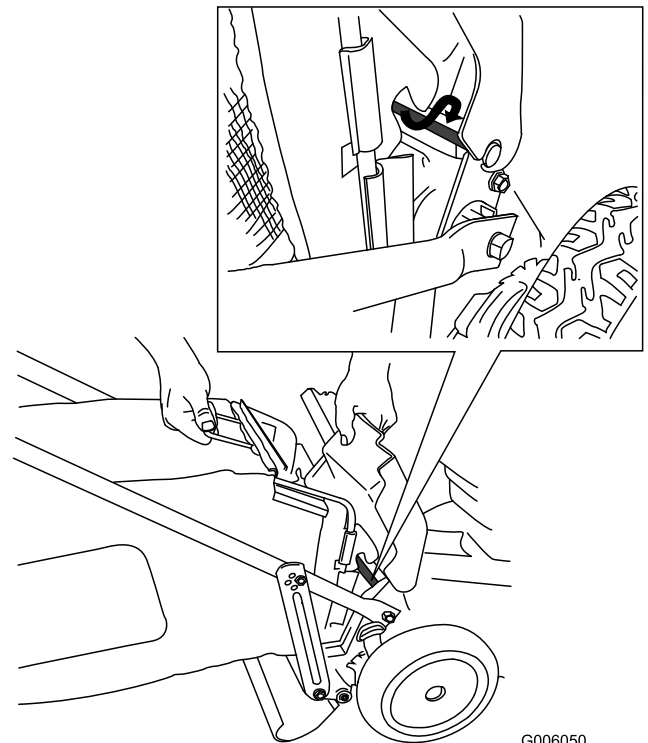

Figure 24
1. Raise and hold up the rear door (Figure 24).
3. Install the bag onto the door rod (see inset in Figure 24).